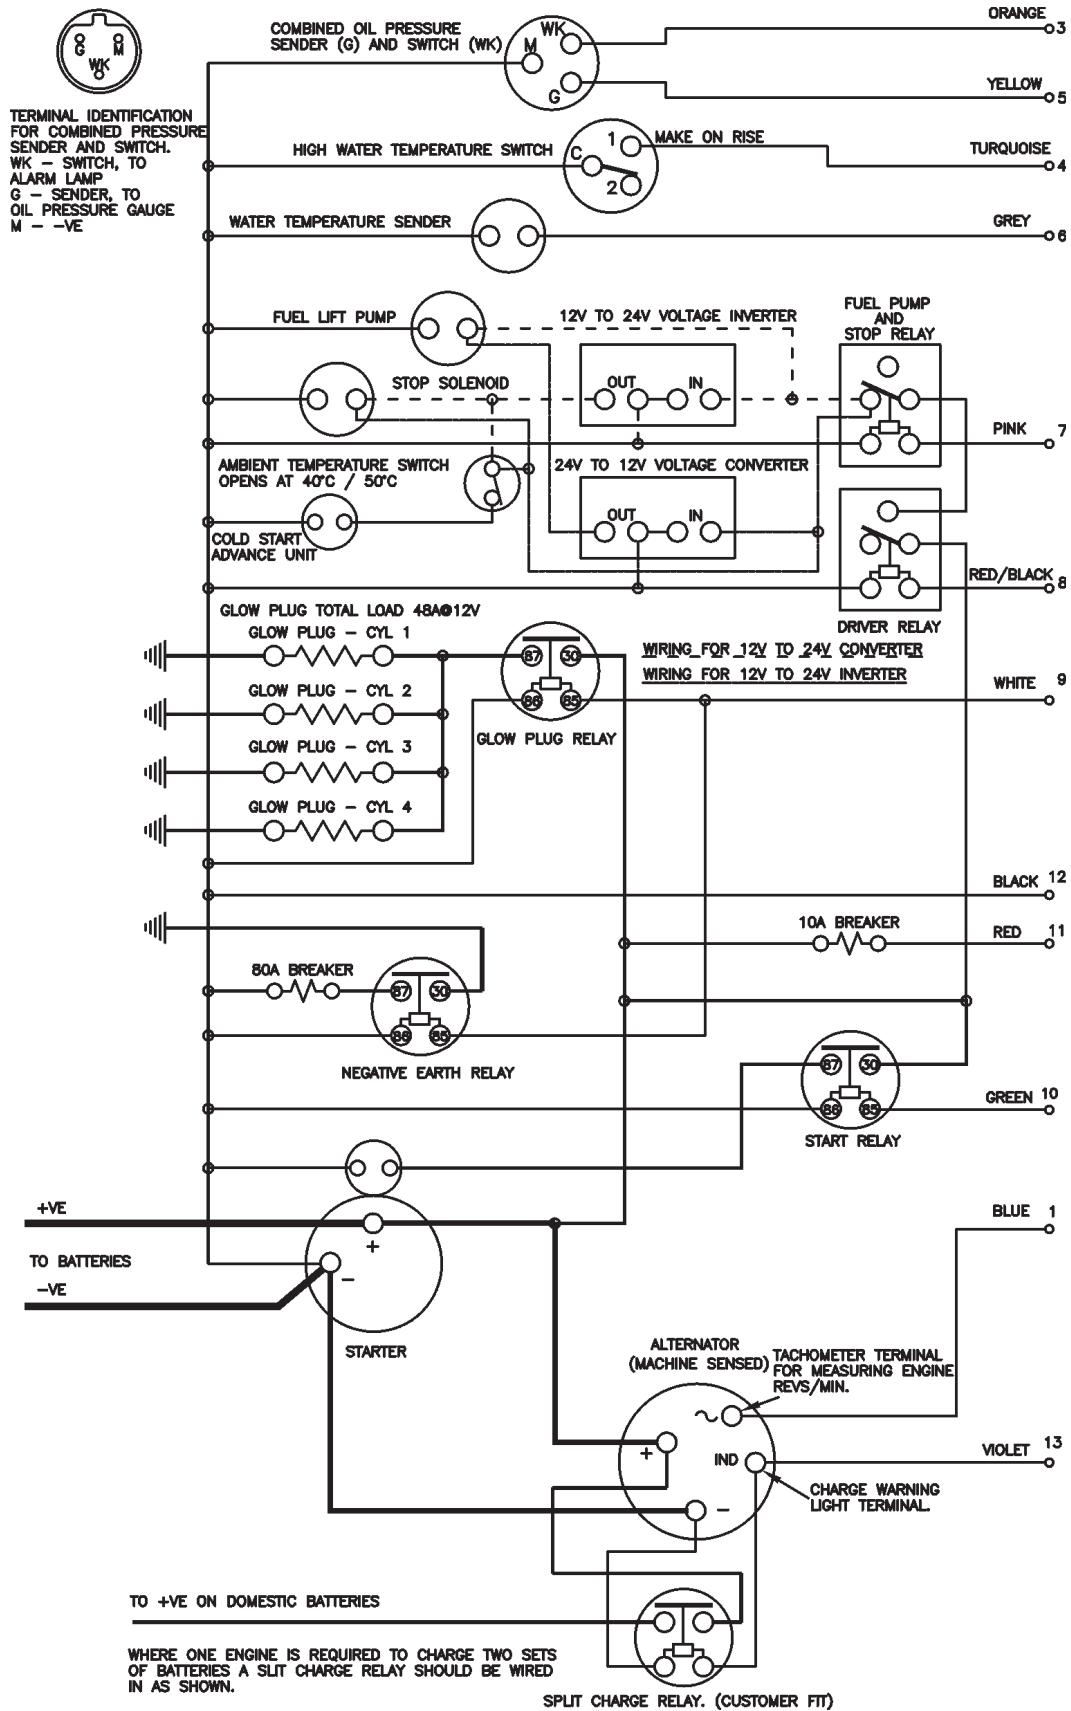

Figure 5 - M92B - 12 and 24 volt insulated earth - circuit diagram
- Figure 5 M92B - 12 and 24 volt insulated earth.